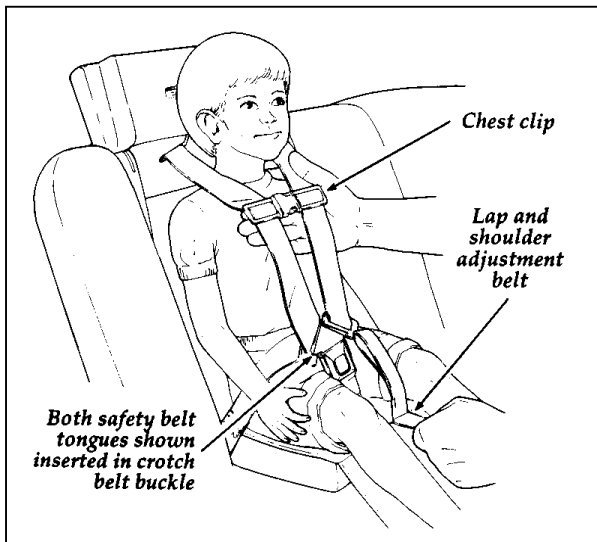

Figure 9: Checking for securely latched buckle and locked retractor
10. Pull the shoulder belts out to ensure that the crotch safety belt buckle is securely fastened. Adjust the lap and shoulder belts by pulling firmly on the adjustment belt. Refer to Figure 9.